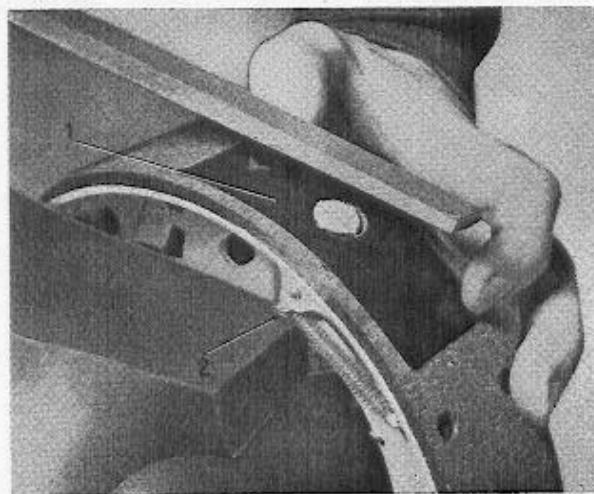

Fig. 14. Adjusting contact plug.
With the contact plug in the outer position, hold the brake shoe in a vice. The lip of the lever (2, Fig. 14) should rest against one of the jaws so that the plug cannot be pushed in during adjustment, causing faulty adjustment to be made.
Place the adjusting jig (1) over the contact plug and file this flush with the adjusting jig (see Fig. 14). This will cause the plug to come 0.1 mm (0.004") above the surface of the brake lining.